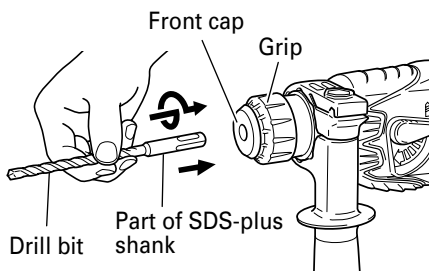

Fig. 5
1. Mounting the drill bit (Fig. 5, 6)
- (1) Clean the shank portion of the drill bit.
- (2) Insert the drill bit in a twisting manner into the tool holder until it latches itself. (Fig. 5)